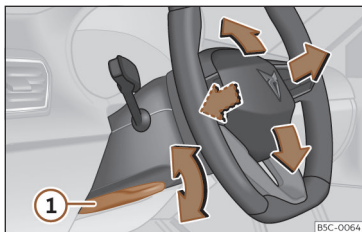

Fig. 82 Lever in the lower left side of the steering column.
- Pull lever >>> **Fig. 82** ① down, move the steering wheel to the desired position and lift the lever back up until it locks.
- After adjusting the steering column, push lever >>> **Fig. 82** ① firmly upwards so that the steering wheel does not accidentally change position while driving.